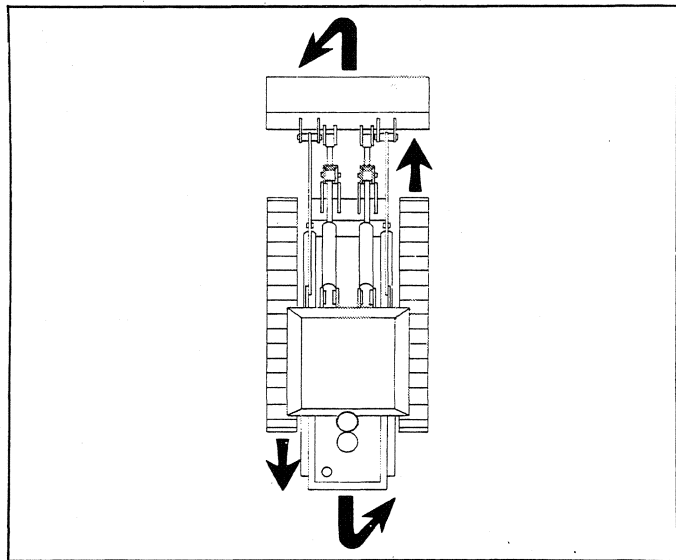

Fig. 6D
Fully depressing the pedal (D) the L.H. trackchain will reverse so making the machine turn leftwards on its own axis (fig. 6D).